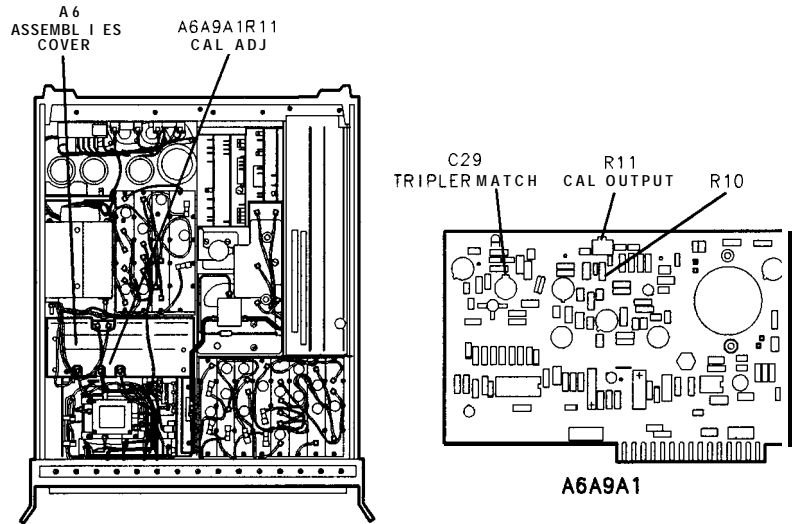

Figure 3-85. Location of CAL OUTPUT Adjustment
A6A9A1R11 CAL OUTPUT should have at least 2.0 dB of adjustment range, centered at a front-panel CAL OUTPUT signal level of -10.0 dBm. If A6A9A1R11 CAL OUTPUT does not have sufficient range to adjust the CAL OUTPUT signal level to -9.0 dBm, decrease the value of factory-select component A6A9A1R10; conversely, increase the value of A6A9A1R10 if A6A9A1R11 CAL OUTPUT does not have sufficient range to adjust the CAL OUTPUT signal level to -11.0 dBm. Select the value of factoryselect component A6A9A1R10 to center the range of A6A9A1R11 CAL OUTPUT as close as possible to the range of -9.0 dBm to -11.0 dBm. Refer to Table 3-3 for the acceptable range of values for A6A9A1R10, and Table 3-4 for HP part numbers. Refer to Figure 3-85 for the location of A6A9A1R10.
- b. Adjust **A6A9A1C29 TRIPLER MATCH** only as much as required to lower the level of the highest harmonic to greater than 25 dB down relative to the peak of the 100 MHz CAL OUTPUT signal. Refer to Figure 3-85 for the location of **A6A9A1C29 TRIPLER MATCH**.